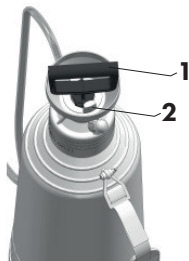
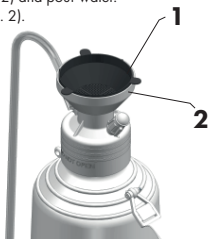

Fig.4b
Fig.5
Unscrew the pump from the head – to do so, lock the piston rod (Fig. 4b/pos. 1) in the cylinder holders (Fig. 4b/pos. 2). When unscrewing the pump, hold the piston rod in hand (Fig. 4b/pos. 1), and turn it anticlockwise.
PL Insert the strainer (Fig. 5/pos. 1) into the head socket (Fig. 5/pos. 2) and pour water.
EN Remove the sieve (Fig. 5/pos. 1) from the head socket (Fig. 5/pos. 2).
Insert the strainer (Fig. 5/pos. 1) into the head socket (Fig. 5/pos. 2) and pour in the working liquid.
Remove the sieve (Fig. 5/pos. 1) from the head socket (Fig. 5/pos. 2). Screw the pump (Fig. 1/pos. 3) into the head (Fig. 1/pos. 2). To this end, lock the pump's piston rod (Fig. 4b/pos. 1) in the cylinder holders (Fig. 4b/pos. 2). Remember to keep the connection tight. When locked this way, the piston rod can be used as a handle for transporting.